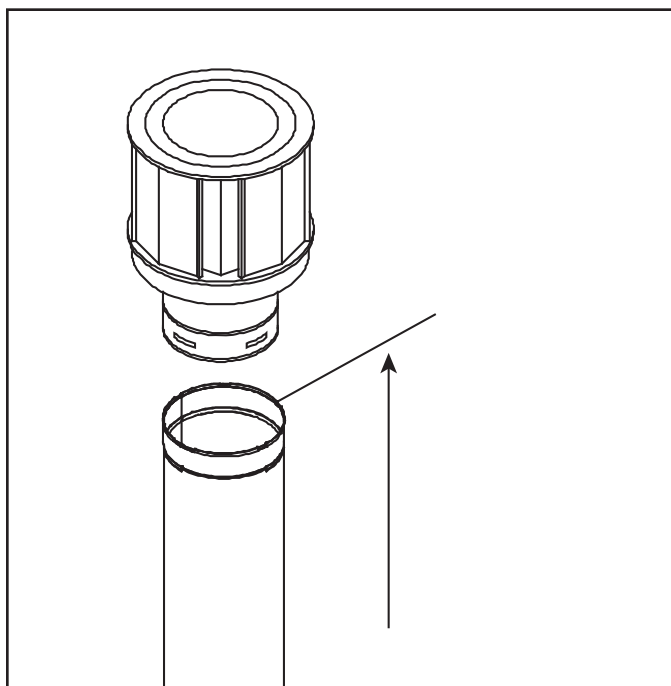

Figure 4.7. Measure to Top of Last Section of Pipe
- Vertical terminations are measured to top of last section of pipe. See Figure 4.7.
- TRUE-36(NG/LP), TRUE-42(NG/LP) and TRUE-50(NG/LP) models require a minimum of 36 inches of vertical venting before attaching any elbow to the appliance for the venting configuration in Figure 4.7.